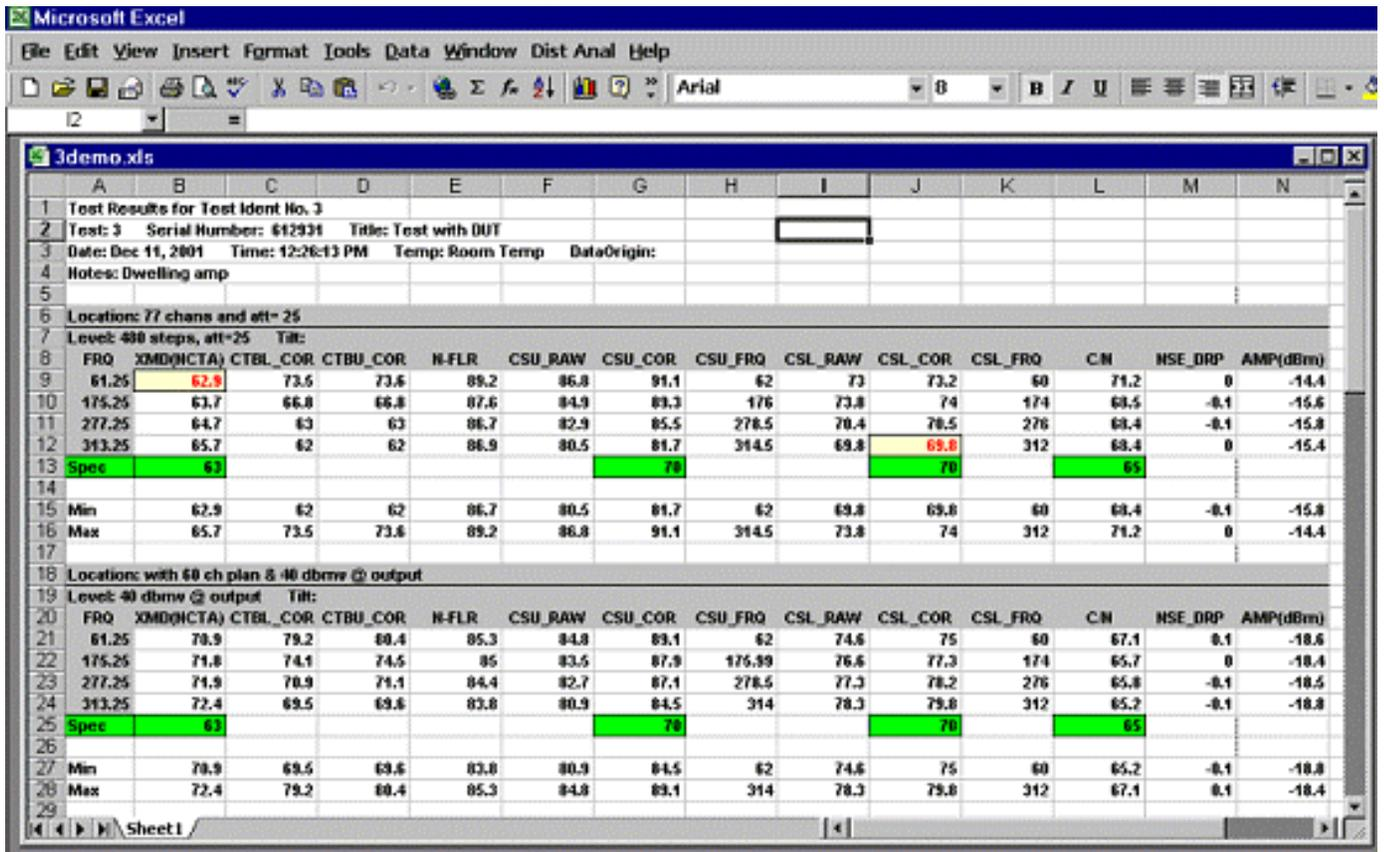

Fig. 10
- When the macro has completed, the spreadsheet will appear as in Fig. 10.